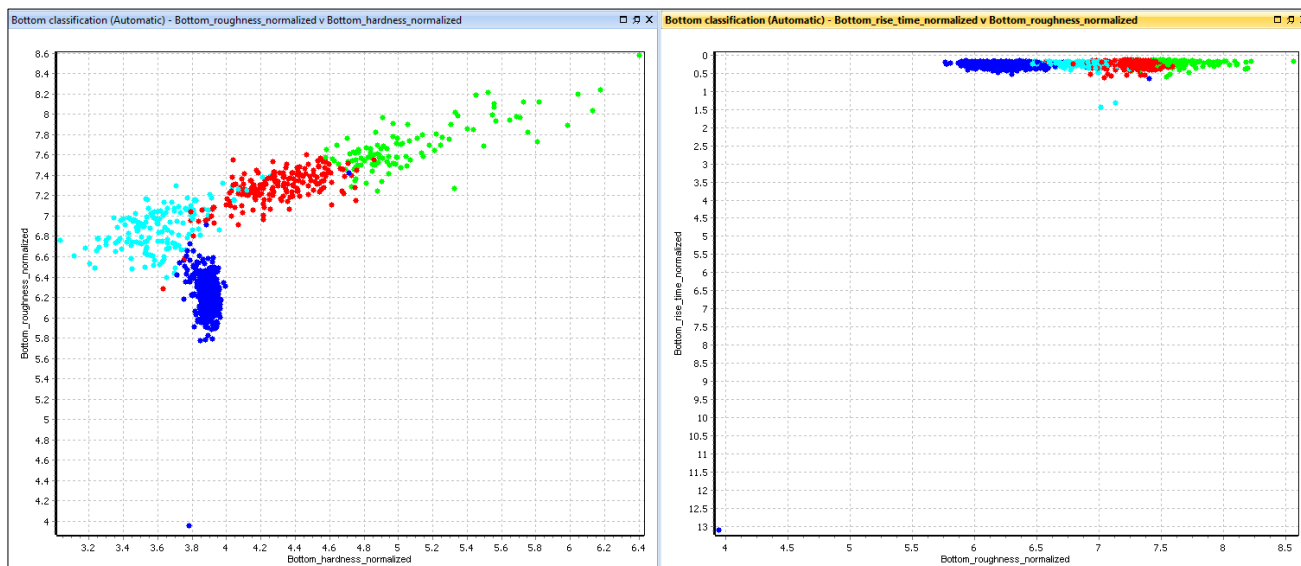

Figure 8. Side-by-side comparison of Bottom classification result graphs.
Review the Bottom classification result graphs docked side by side (Figure 8). The two graphs show a clustering of points and a clear separation of class. Graph axis features that result in separated point clusters may be useful when used as cluster dimensions when tuning the bottom classification settings while undertaking manual bottom classification.
23. On the **Shortcut** (right-click) menu, click **Table**. Bottom classification results will be shown as a table (Figure 8).